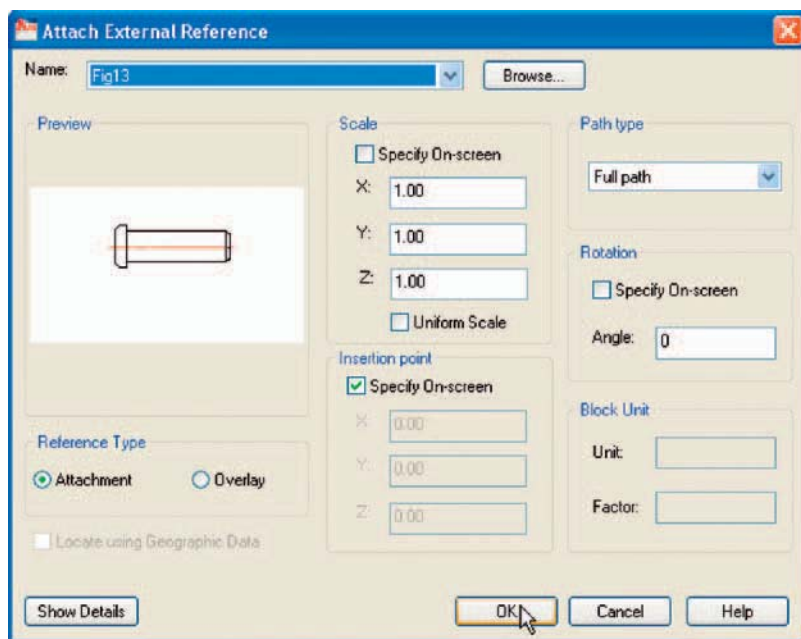

Fig. 10.16 The Attach External Reference dialog
4. Click its **Attach** button and select **Attach DWG...** from the pop-up list which appears when a *left-click* is held on the button. Select the drawing of a spindle (Fig13.dwg) from the **Select Reference file** dialog which appears followed by a *click* on the dialog's **Open** button. This brings up the **Attach External Reference** dialog (Fig. 10.16) showing Fig13 in its **Name** field. Click the dialog's **OK** button.